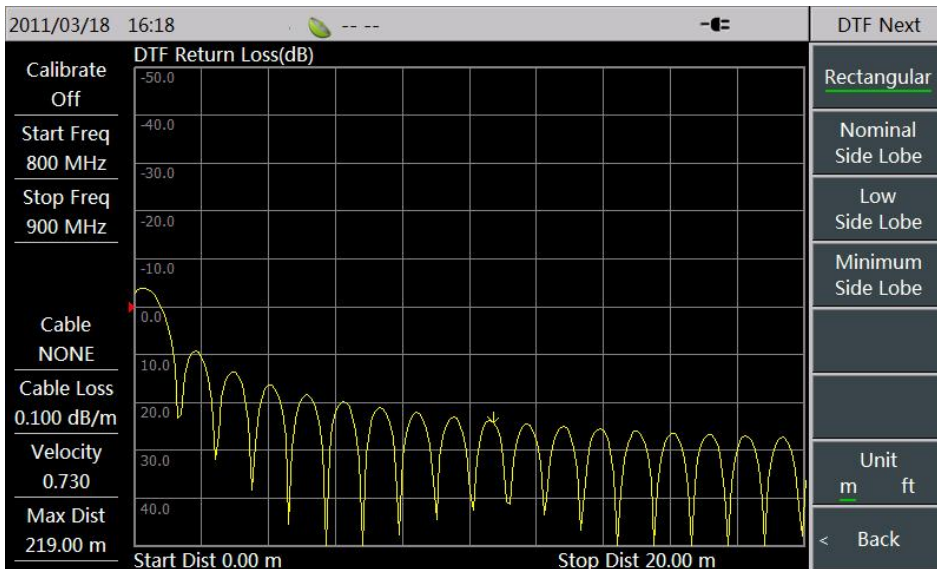

Figure 3-7 Window Function Select
- 12) Select **【Cal Kit】** menu, then the prompt box of “Select Cal Kit” will be popped up in the screen. According to the model of calibration kit at hand, select the corresponding model in the tooltip, and then click “OK” key or press **【Enter】** to finish the calibration kit selection, as shown in Figure 3-7: